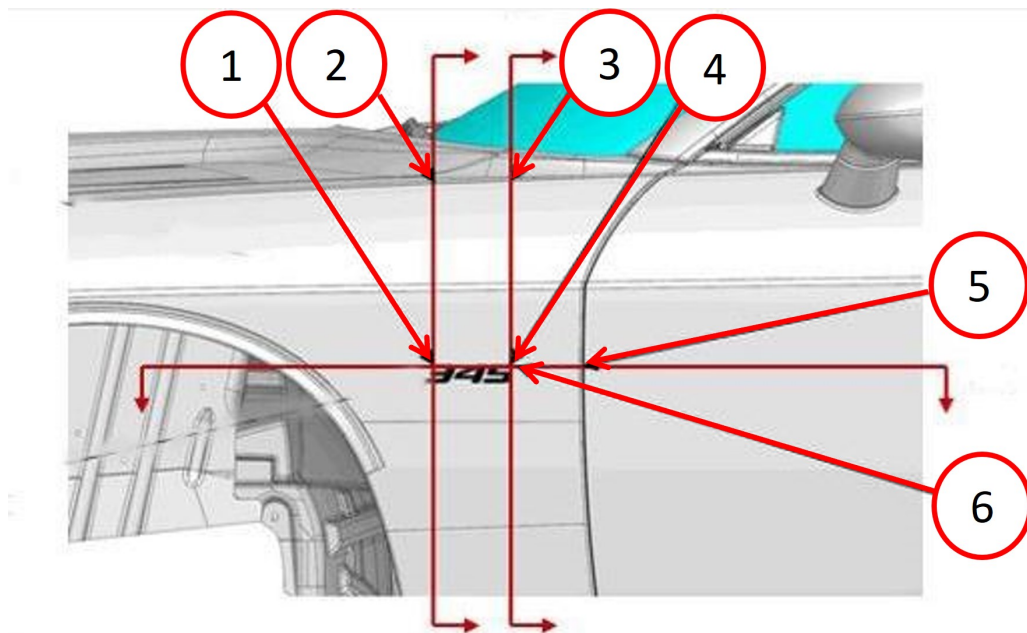
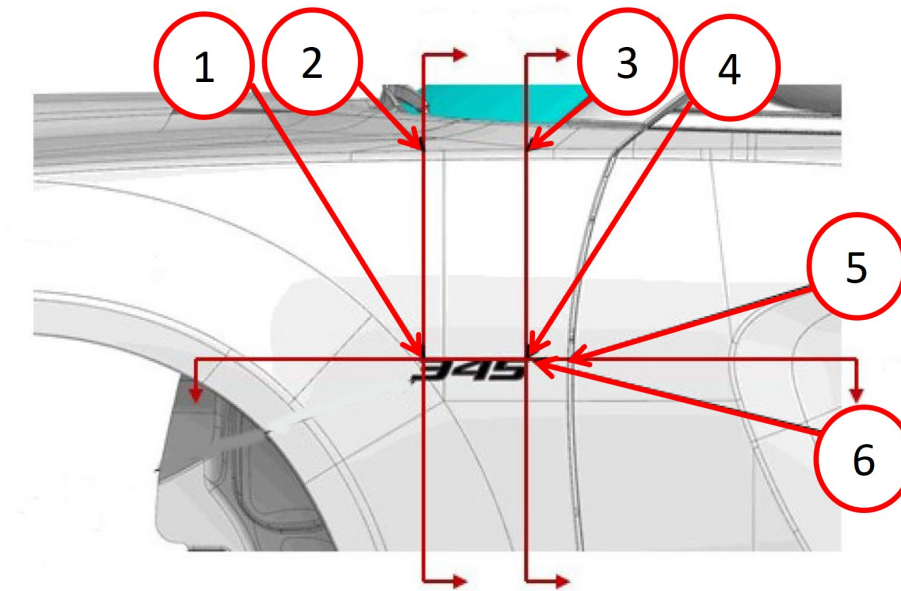

Fig. 2
Fig. 3
1. Wipe the fender badge attachment area (Fig. 2) or (Fig. 3) with a clean, lint-free cloth, moistened with a 50% solution of water and alcohol, to thoroughly clean all residue from the fender badge attachment surface area. Wipe dry the areas immediately with a dry, lint-free cloth.
2. Using the measurements provided (Fig. 4) , remove the protective covering from the back of the badge and position the badge onto the fender (Fig. 2) or (Fig. 3) .
3. Visually inspect that there is 100% adhesion all around the perimeter of the badge to the fender (Fig. 2) or (Fig. 3) .